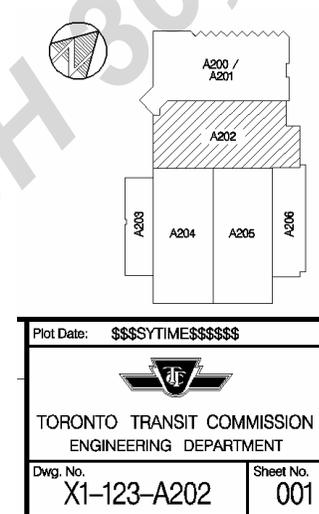

Figure 29a –Key Plan for Plan Drawings
- indicate by a **hatch pattern**, the extent of area covered by the drawing (see Figure 29a)